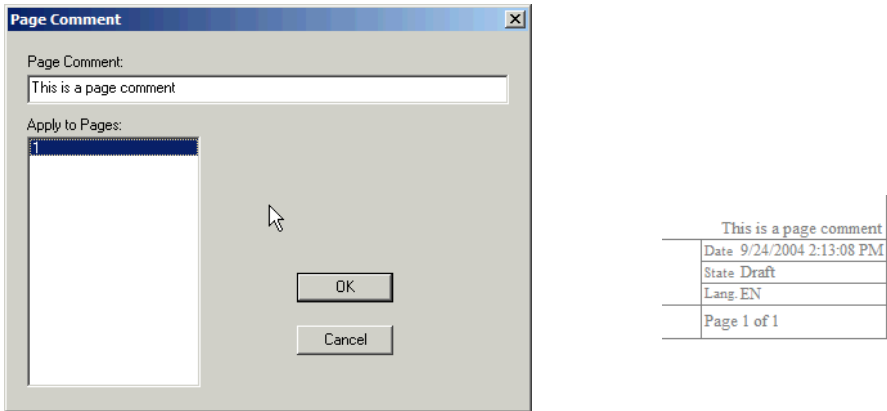

Figure 155. Page Comment Dialog and Page Comment in Diagram
- In the **Page Comment dialog** enter a page comment and select a range of pages to apply the comment to. See Figure 155.